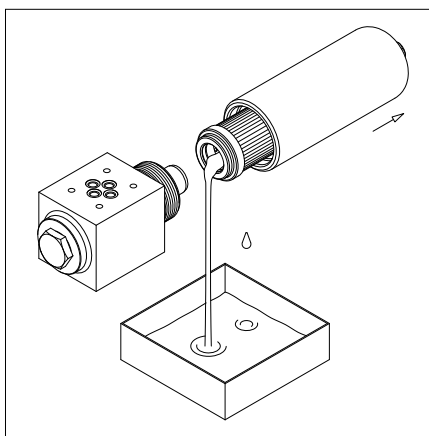

fig. 2
- (Fig. 2) Pull the filter element out together with the bowl and drain the fluid from the cap hole